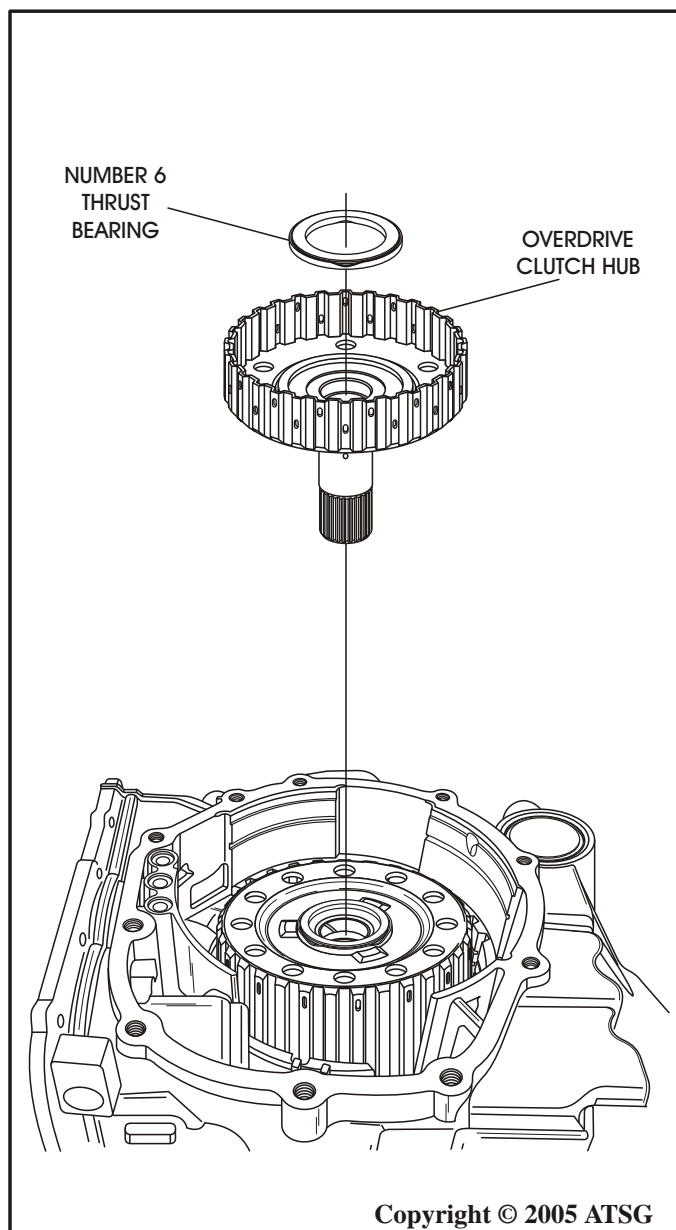

Figure 46
41. Remove the number 6 thrust bearing and the overdrive clutch hub, as shown in Figure 46.